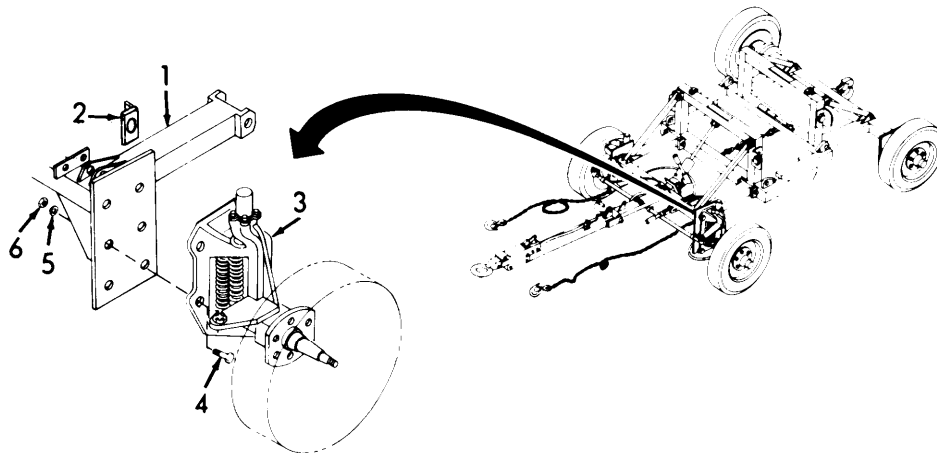

Figure 3-22. Shock Absorbing Spring Assembly, Removal.
- (1) Remove shock absorbing spring assembly (3, Figure 3-22) from front axle frame(l).
- (a) Remove six nuts (6), six lockwashers (5), six bolts (4), and bracket (2).
- (b) Separate spring assembly (3) from front axle frame (1).